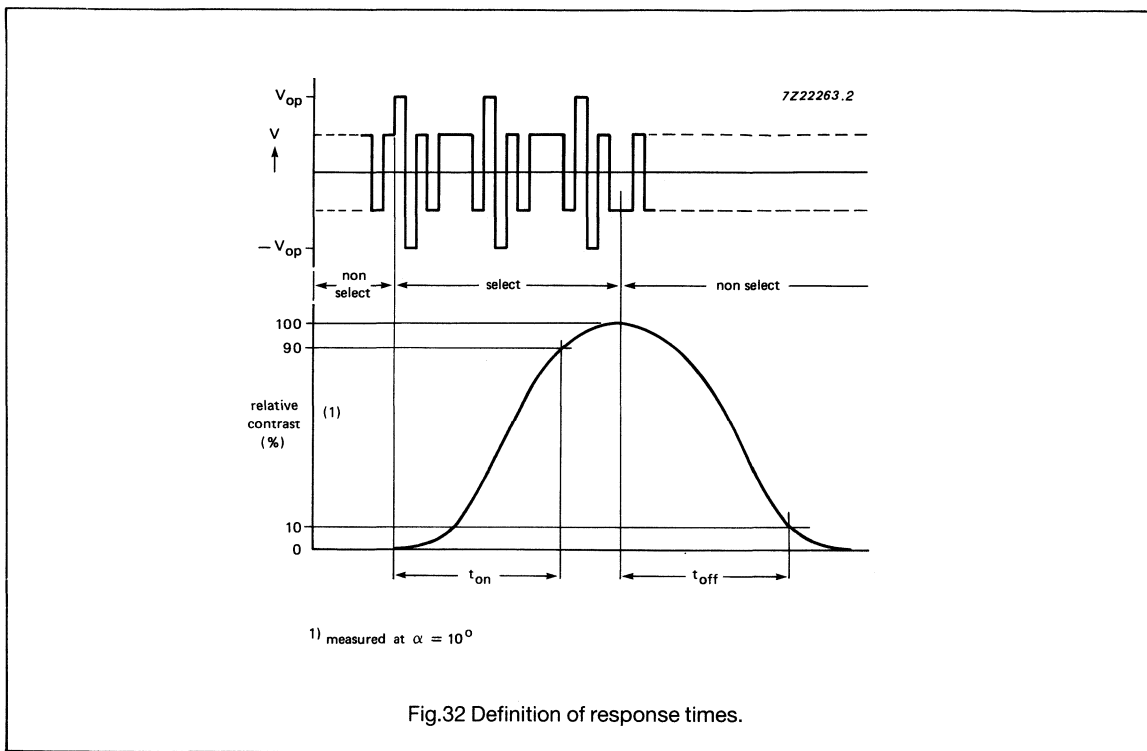

Fig.32 Definition of response times.
2. For definition see Fig. 32.